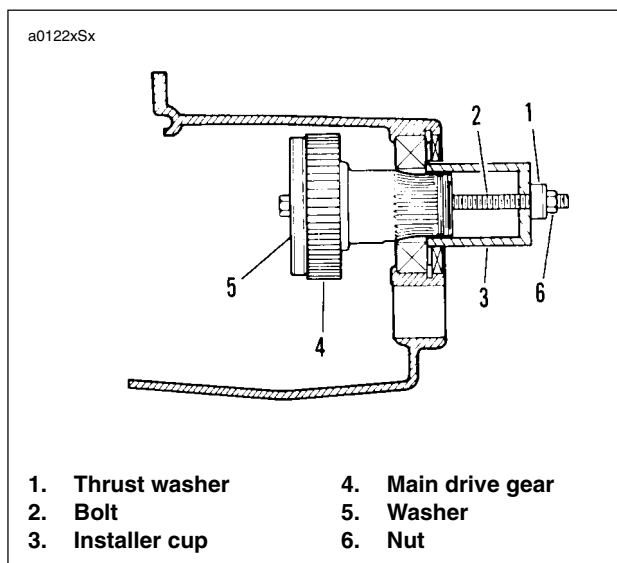

**Figure 6-70. Needle Bearing Installation Tool**
1. See Figure 6-70. Use INNER/OUTER MAIN DRIVE GEAR NEEDLE BEARING INSTALLATION TOOL (Part No. HD-37842-A) for assembly. Select which end of tool to use.